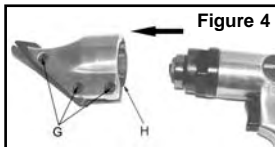

Figure 4
- Loosen the 3 allen screws (G) on the cutting head (H). Pull the cutting head straight out while turning it back and forth to release it from the motor (see figure 4).